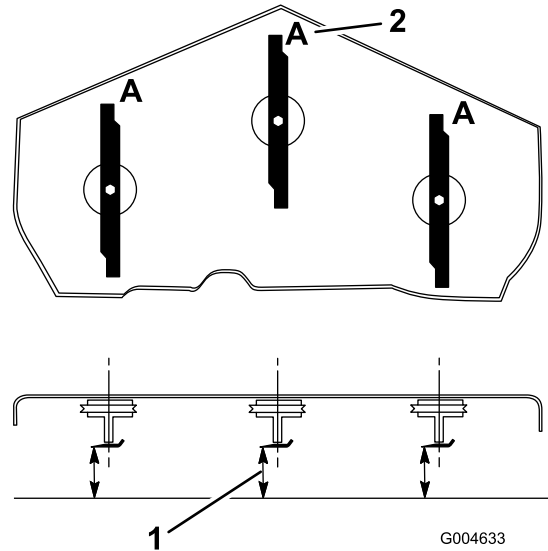

Figure 20
3. Rotate the blades until the ends face forward and backward (Figure 20). Measure from a level surface to the cutting edge, position A, of the blades (Figure 20). Note this dimension.